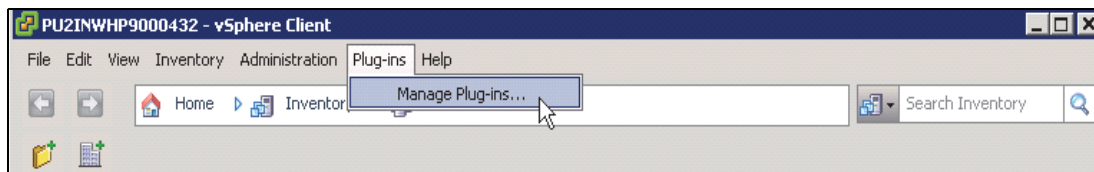

Figure 92. vSphere Client - Manage Plug-in Menu
- 1 In the VMware vSphere Client, select **Plug-ins > Manage Plug-ins** (see Figure 92).